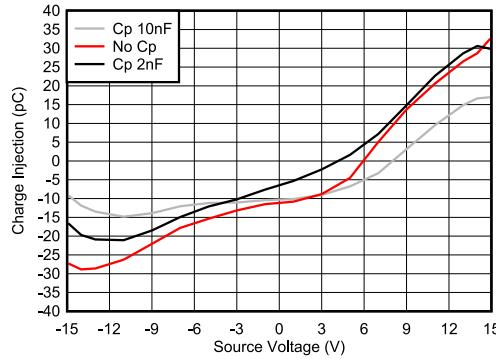

图 8-2. Charge Injection Compensation
The TMUX720x contains specialized architecture to reduce charge injection on the Drain (D). To further reduce charge injection in a sensitive application, a compensation capacitor (C_p) can be added on the Source (Sx). This will ensure that excess charge from the switch transition will be pushed into the compensation capacitor on the Source (Sx) instead of the Drain (D). As a general rule of thumb, C_p should be 20x larger than the equivalent load capacitance on the Drain (D). 图 8-2 shows charge injection variation with different compensation capacitors on the Source side. This plot was captured on the TMUX7219 as part of the TMUX720x family with a 100pF load capacitance.